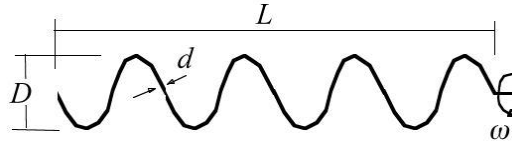

Figure P7.42
7.42 The power P developed by the helical flagellum of a bacteria swimming in water, as shown in Figure P7.42, depends on the helix angle θ , the flagellum diameter d , the helix